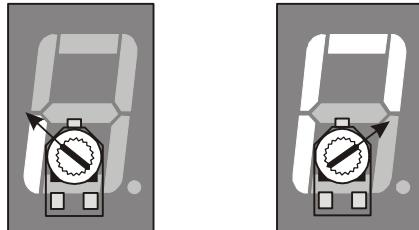

Figure 6-16
This example program mirrors the position of the potentiometer's knob by lighting segments around the outside of the 7-segment LED display as shown in Figure 6-16.
- ✓ When you run the example program, it may not be as precise as shown in Figure 6-16. Adjust the values in the lookdown table so that that the digital display more accurately depicts the position of the potentiometer.